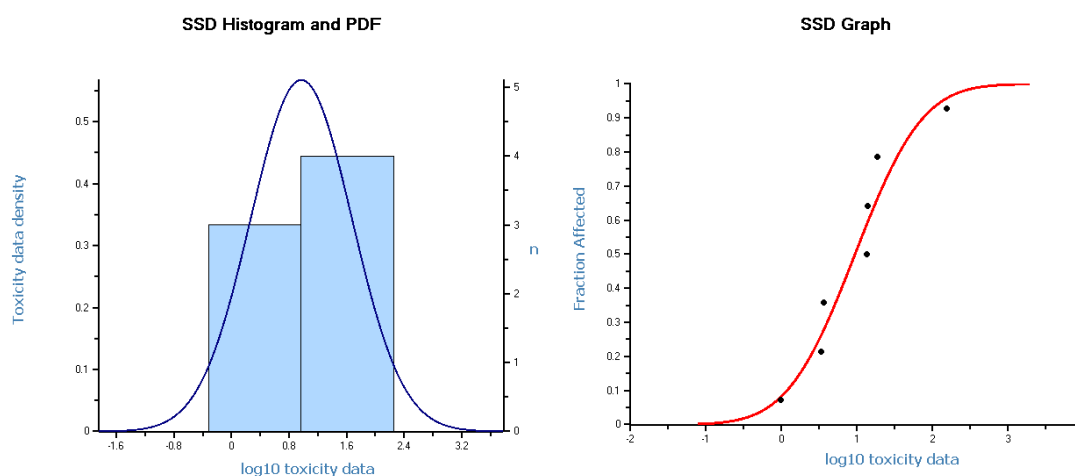

Figure 28. Histogram and PDF (left panel) and species sensitivity distribution (CDF, right panel).
► Go to **Output, Graphics** to find the **SSD Histogram and PDF** sheet and the **SSD graph** sheet to view the graphical output (Figure 28).